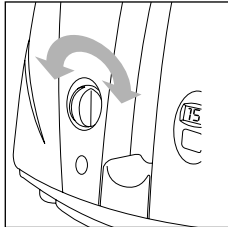

fig. 4
3. Set thermostat knob to the required temperature (fig.4). When the temperature set has been reached, the indicator light will go off.